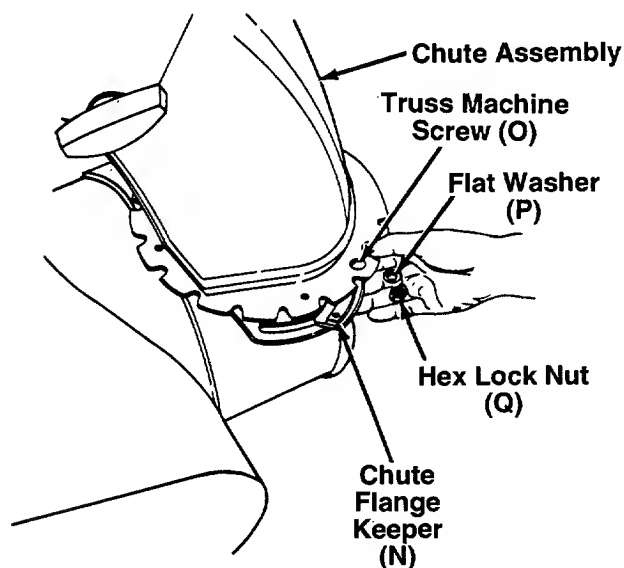

FIGURE 8.
11. Place chute assembly over chute opening, with the opening in the chute assembly facing the front of the unit. Place chute flange keepers (N) beneath lip of chute assembly. Secure with truss machine screws (O), flat washers (P) and hex lock nuts (Q) as shown in figure 8. Tighten with a 7/16" wrench, then back off 1/4 turn to allow easier movement.